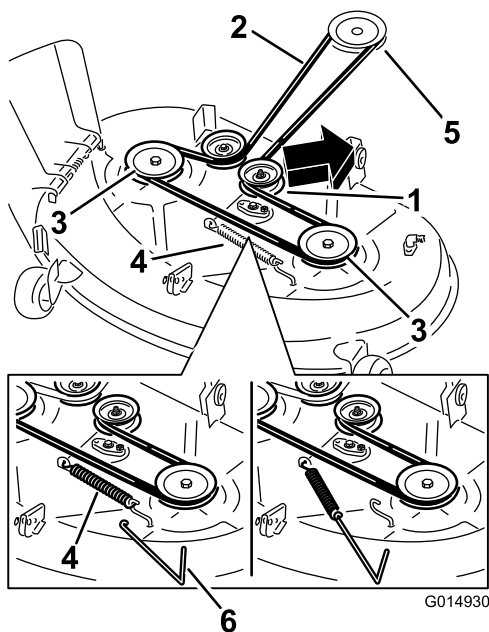

**Figure 54**
5. Using the mower deck handles, lift the mower deck and hanger brackets clear of the rear lift rod and lower the mower carefully to the ground (Figure 54).
- Lift the rear of the mower deck and guide the hanger brackets over the rear lift rod (Figure 54).